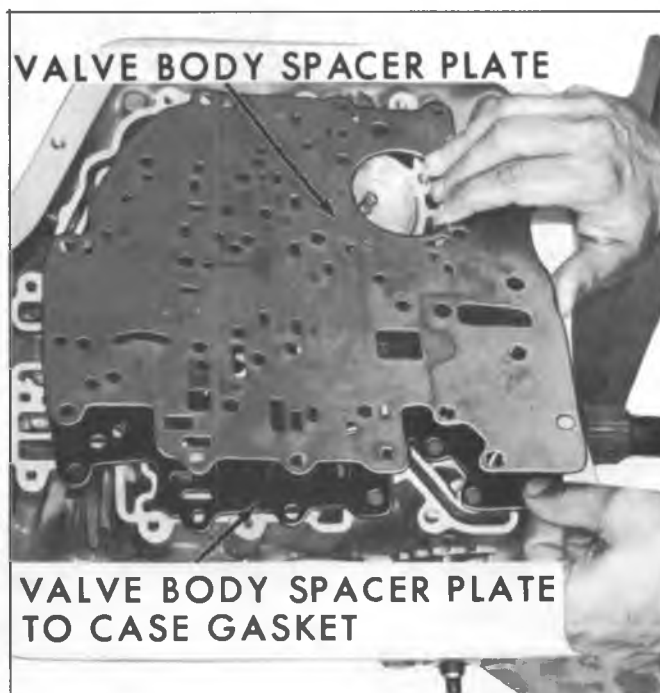

Fig. 15M--Removing Valve Body Transfer (Spacer) Plate and Gasket
4. Remove valve body transfer (spacer) plate and valve body transfer (spacer) plate to case gasket (fig. 15M).